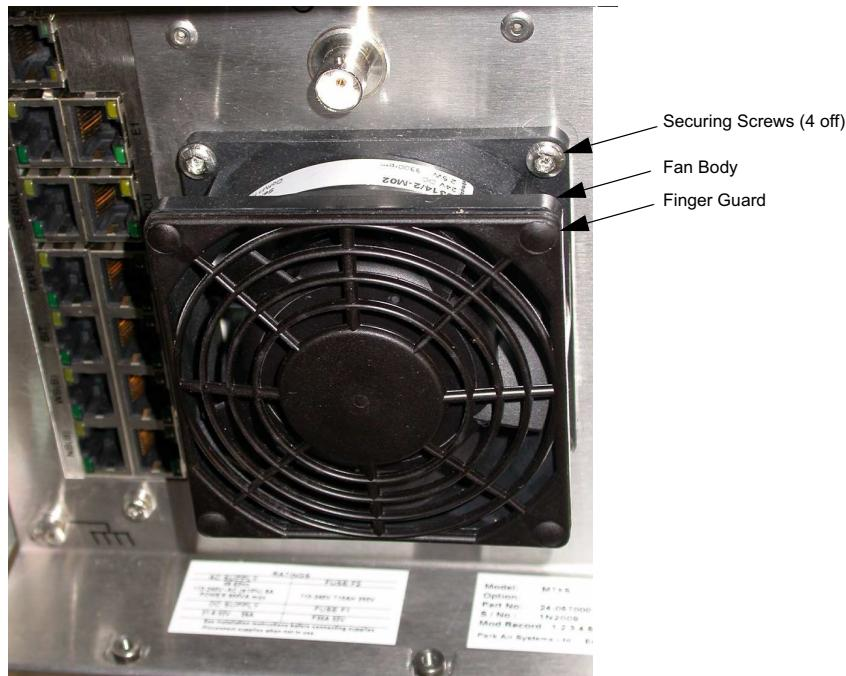

Fig 5-9 Fan with Finger Guard Fitted
- (1) Using a thin blade, gently prise the finger guard away from the fan's body (Fig 5-9).
- (2) Release the four screws that secure the fan to the radio's chassis.
- (3) Unplug the fan from the chassis mounted Molex 4-way connector; remove the fan from the radio.
- (4) Secure the replacement fan to the chassis using the four screws removed in step (2).
- (5) Plug the fan into the chassis mounted 4-way Molex connector.